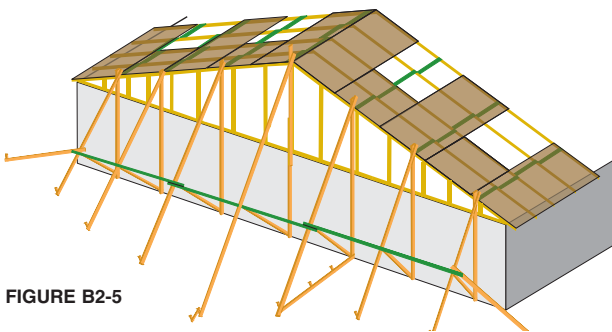

FIGURE B2-5
- ✔ **STEP 5.** Install top chord diagonal bracing (see diagonal bracing options based upon TCTLB design on pages 38-39). Alternately, roof sheathing applied at this stage will act as diagonal bracing for the top chords and adequately brace the first five trusses (see Figure B2-5).